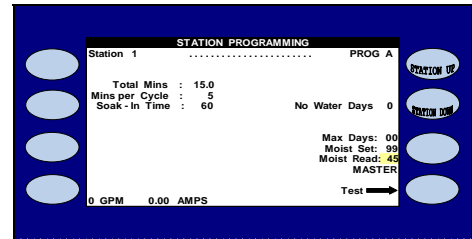

Figure 5.39
- **MOIST READ:** This entry is non-changeable. As a moisture sensor reading goes above the determined moisture set point, the controller stops irrigation. When the moisture level reading drops below the moisture set point. The controller automatically begins to irrigate more of the programmed time to where it may water the full programmed amount (Figure 5.39).